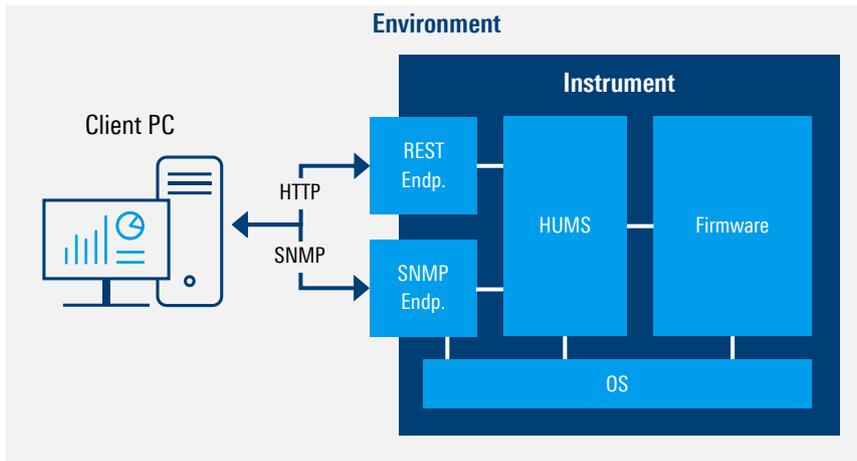

Figure 1 Remote Control Setup
HUMS is a software option that is automatically integrated with some devices or can be purchased additionally. The software runs as a service in the background on the device operating system and communicates with the operating system (OS) and the device firmware (see Figure 1). For control, HUMS opens a REST and an SNMP interface to read the monitoring and utilization data.